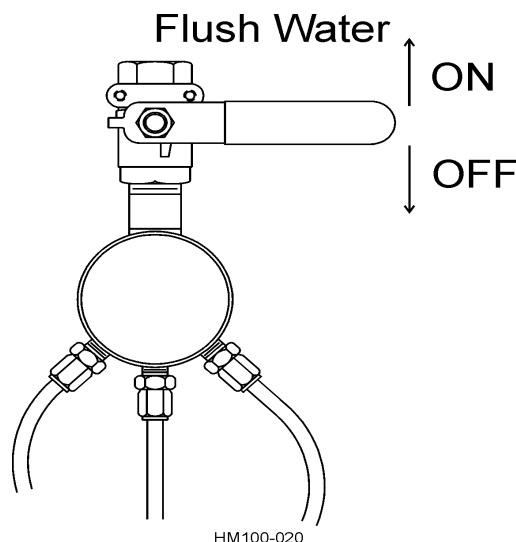

Figure 19 Flush Control
2. Open water flush to cause a small flow of water from each snubber on flush ring. See Figure 19